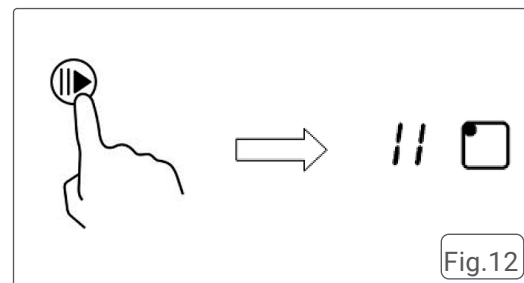

Fig.12
1. Touch the Pause control . All heating zones will stop working, and all zone indicators will display "||", indicating that the hob is paused. Fig.12